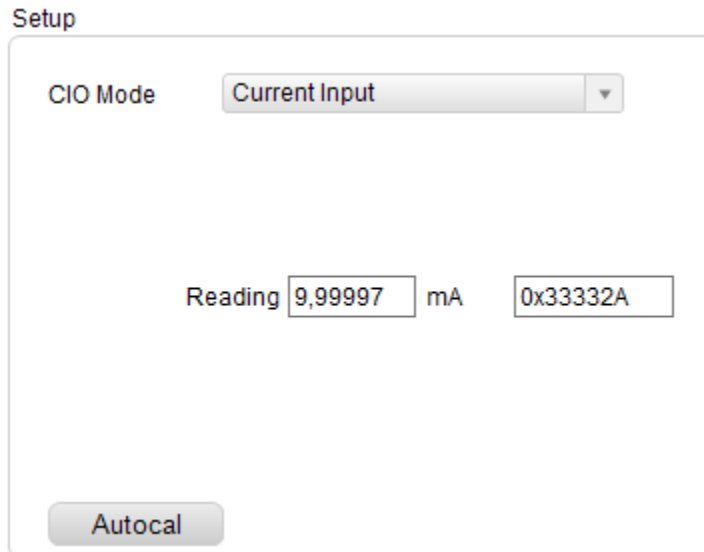

Figure 16. CIO Mode current input.
26. **Current Input:** Drive a current into pin 1 on J12 and observe that the reading shows the correct value (**Figure 16**).